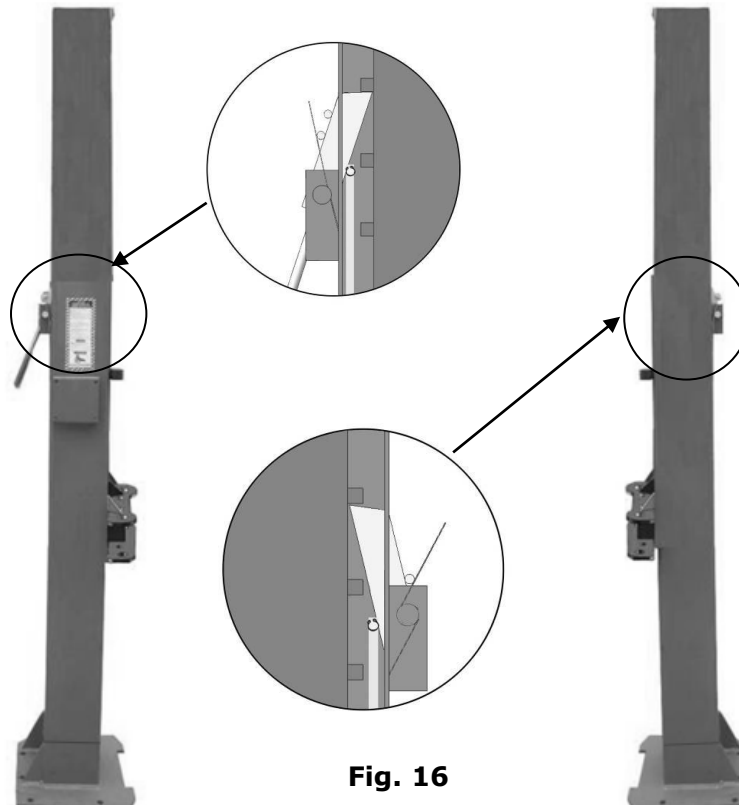

Fig. 16
G. Lift the carriages up by hand and make them be locked at the same level (See Fig. 16).